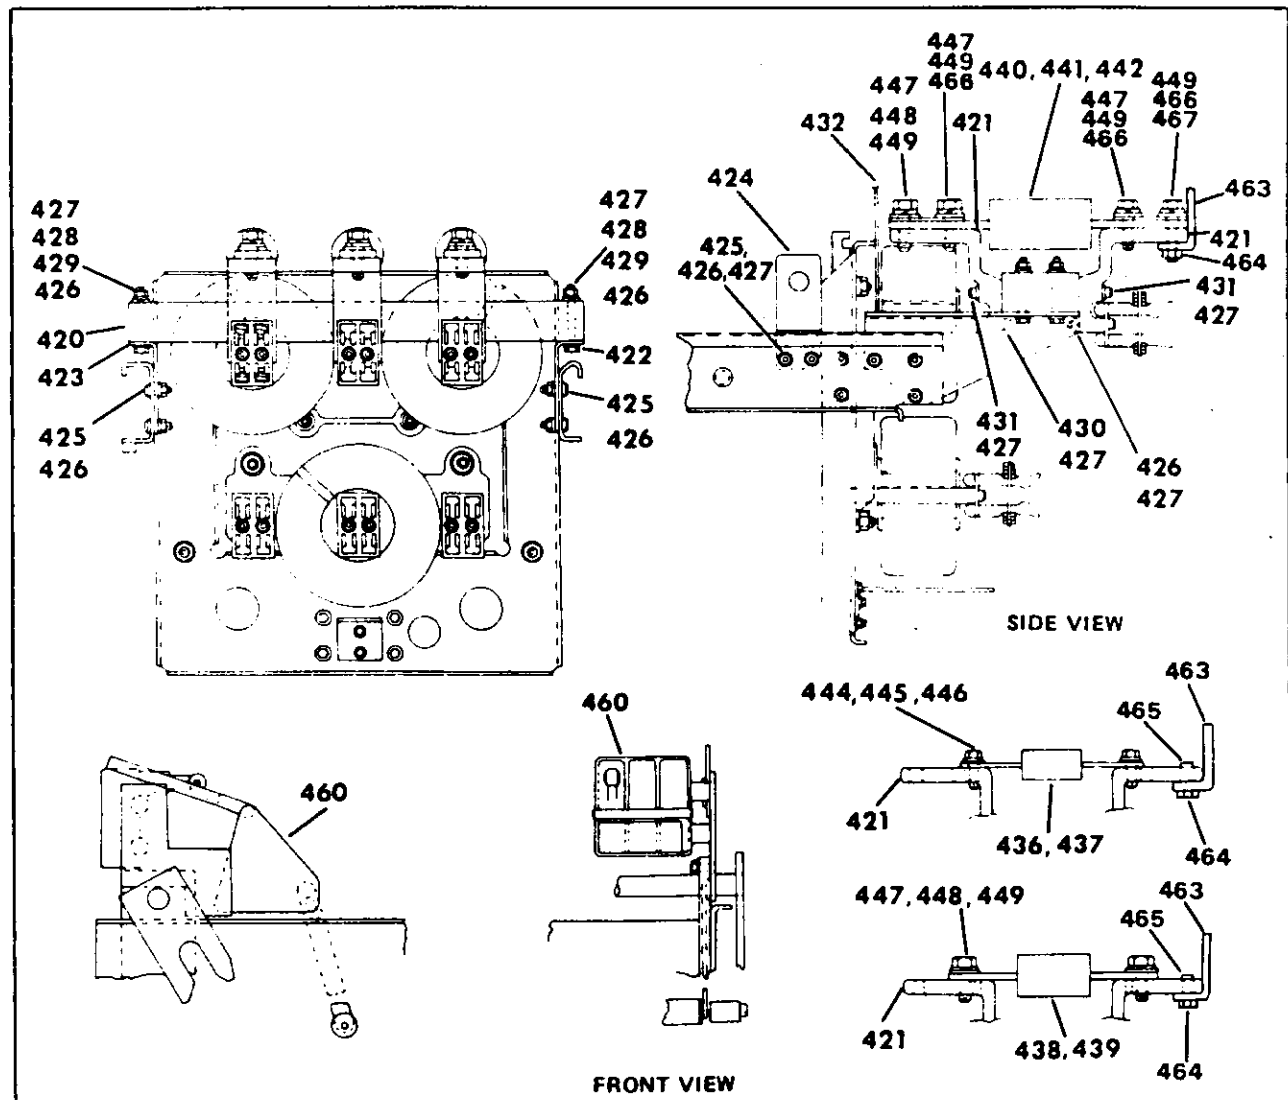

Figure 9. Fuse Attachment Group LAF-600B, LAF-800A Breakers
moved by loosening screws (18) enough to relieve the compression on springs (10). There are two springs behind each finger. It is important that they be positioned properly upon reinstallation. If difficulty is experienced in correctly positioning these springs, the upper and lower primary disconnects (Figure 1, Item 123), may be removed from each phase and the circuit breaker inverted to rest on the ends of connectors (4) and (11). After the contact fingers are replaced, connector (4) should be positioned in the center of the slot in the molded base to assure correct alignment of the primary disconnect fingers. (See Figure 9.)
Be sure to replace barrier, Item 463, Figure 9 and 10 before installing in cubicle. Failure to do so could result in property damage, electrical shock, burns, personal injury or possible death.